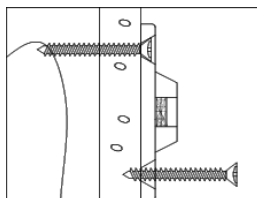
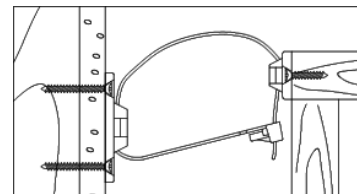

Figure 2
Figure 3
- 3) MOUNTING THE WALL-SIDE BRACKET:** Position the wall-side bracket along the selected stud mark so that it will be adjacent the furniture-side bracket when the furniture item is moved to its final position. The wall-side bracket should be about ONE inch lower than the furniture-side bracket (See Figure 3). Use the TWO Long screws to secure the wall-side bracket to the wall. Remember to position the wall-side bracket vertically so that both screws will engage the selected wall stud (See Figure 2).